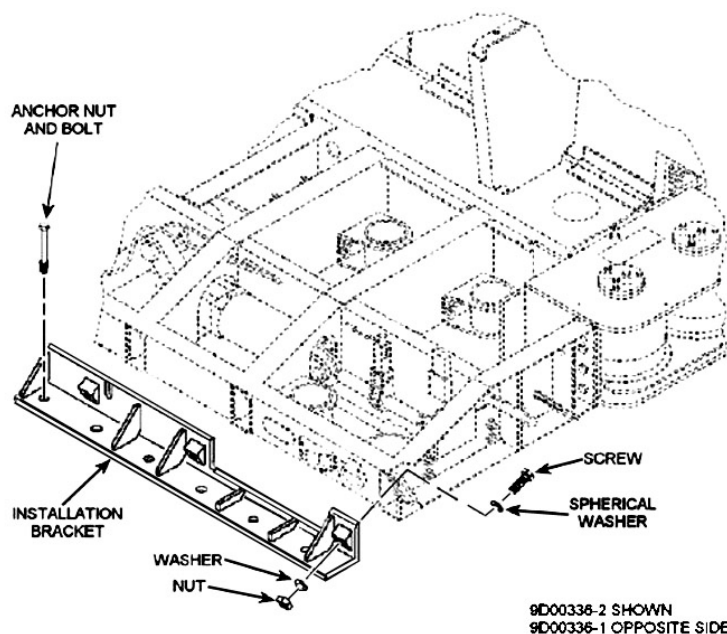

Figure 1-51. Concrete installation brackets.
4. FOR CONCRETE INSTALLATIONS ONLY: Install installation brackets 9D00336-1 and 9D00336-2 onto the MRES as shown in figure 1-51. Installation bracket 9D00336-2 is shown in the figure, installation bracket 9D00336-1 is on the opposite side of the MRES.